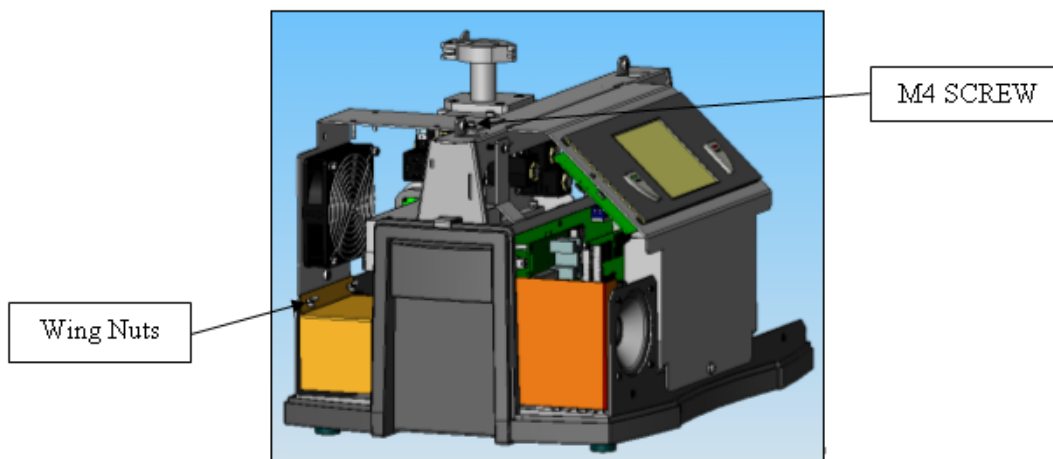

Figure 3: Plastic Shield
6. Remove the two wing nuts holding the plastic shield around the power input area inside the leak detector and remove the shield (Figure 3: Plastic Shield).
7. Remove the fan assembly by loosening the M4 socket head cap screw (Figure 3: Plastic Shield).
- Reinstall the (Figure 3: Plastic Shield):